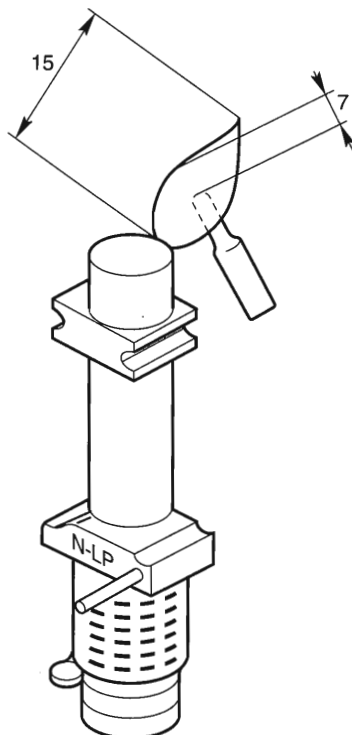

Figure 10
7. Check the pilot flame fully envelops the thermocouple tip and has a minimum flame design in accordance with Figure 10.
- b. Ensure that the pilot flame envelops the thermocouple tip as in Figure and that the spark electrode gap is set between 4.0 - 4.5 mm. (Figure 10).